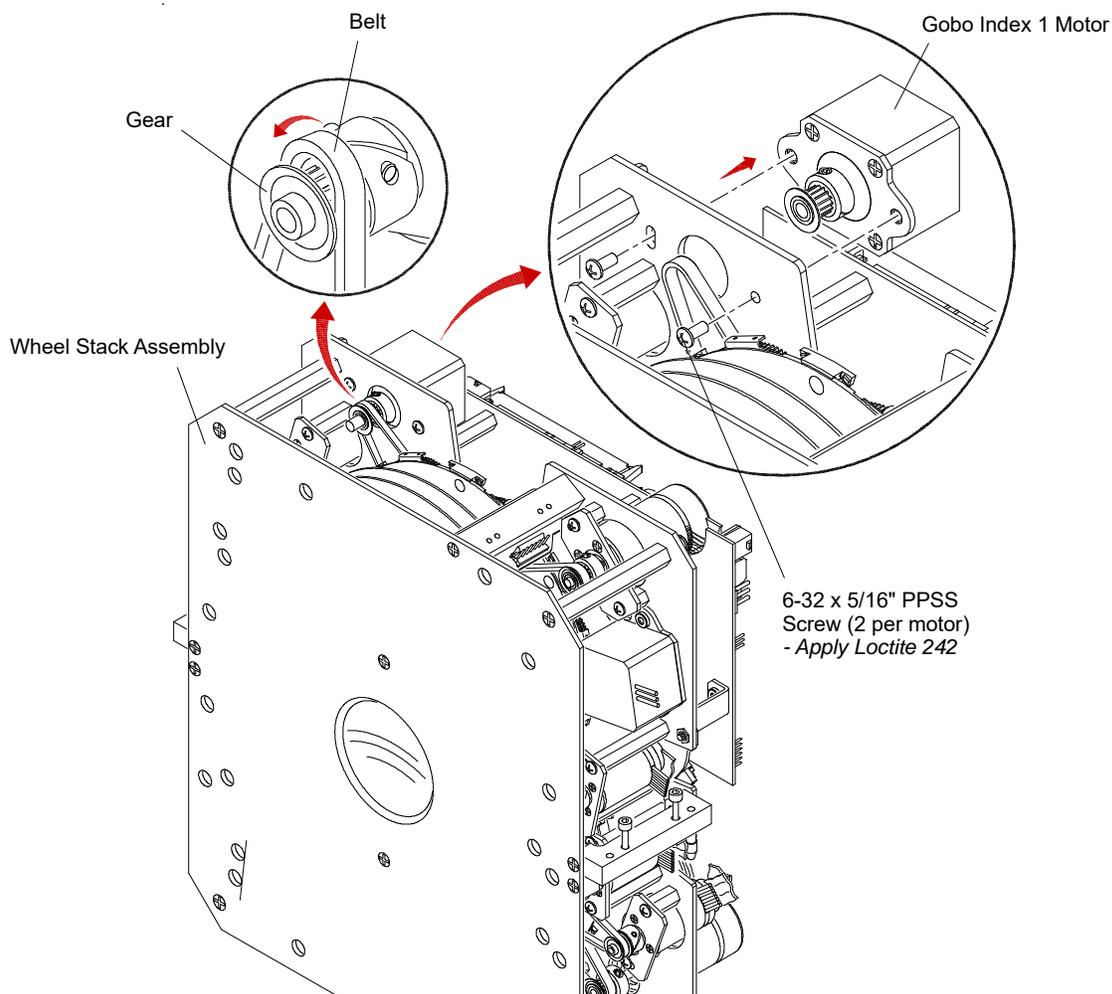

Figure 3-26: Removing Gobo Index 1 Motor
- Step 3. At Gobo Index 1 Motor, disconnect cable (**Figure 3-26**).